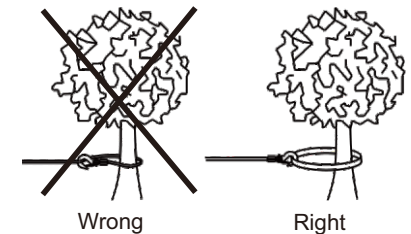

Figure 3
- Never hook the wire rope back to itself because it could damage the wire rope. Use tree trunk saver (see Figure 3)
- It is important to lay a blanket or jacket over the wire rope near the hook end when pulling a load (see figure 3). This will slow the snap back of a broken wire rope and help to prevent serious injury and damage.